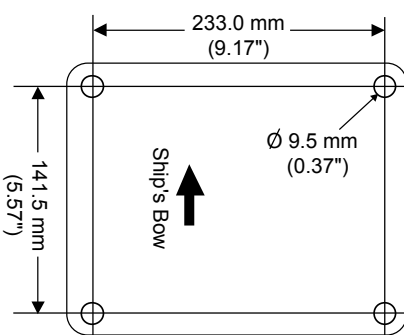

Figure 1
1. Once a suitable mounting location has been determined, verify that the mounting hole locations are aligned fore and aft, then drill four 9.5 mm (0.37") mounting holes referencing Figure 1 below. (This step is not necessary if you are using a pre-drilled Garmin compatible or Raymarine mount.)